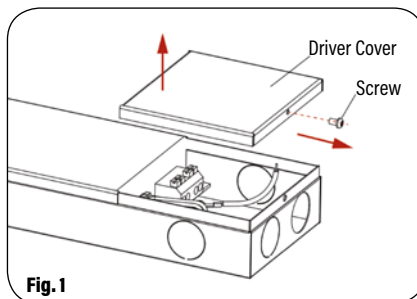

Fig. 1
2. Unscrew the driver cover. (Fig. 1)